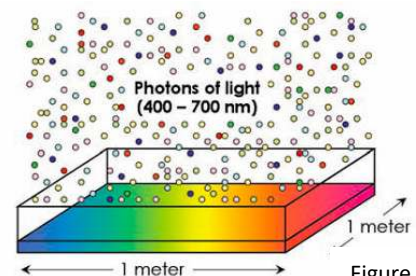

Figure 2
**Photosynthetic Photon Flux Density** measures the amount of PAR that actually arrives at the plant or “the number of photosynthetically active photons that fall on a given surface each second”. It is a measurement of micromoles per square meter per second ( $\mu\text{mol/m}^2/\text{s}$ ) onto the canopy (see Figure 2). Widely available handheld PAR meters are used to measure PPFD.